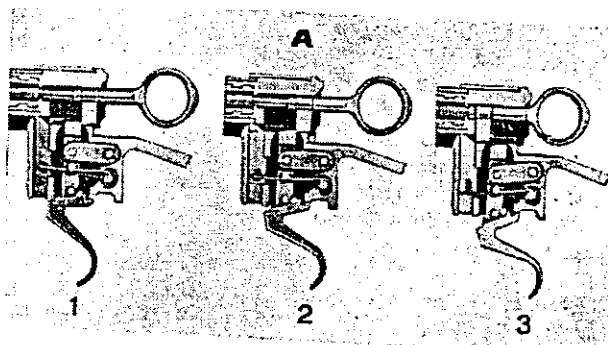

Fig. 17
(Fig. 17)
- 11 When the weapon is ready to fire, the bolt is closed and locked, the trigger mechanism is armed (normal position. See Fig. 17)